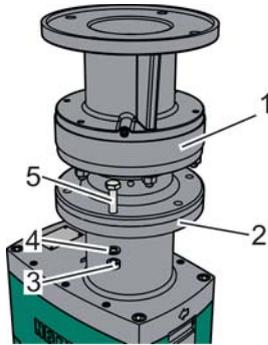

Fig. 38: Attaching the gear, example
6. ➔ Insert the attachment bolts (Fig. 38/5) into the boreholes of the gear (Fig. 38/1) and tighten them by hand with retaining rings (Fig. 38/4) and nuts (Fig. 38/3).
7. ➔ Tighten the attachment bolts (Fig. 38/5) crosswise with the prescribed torque (☞ Appendix "Screw tightening torques" on page 131).